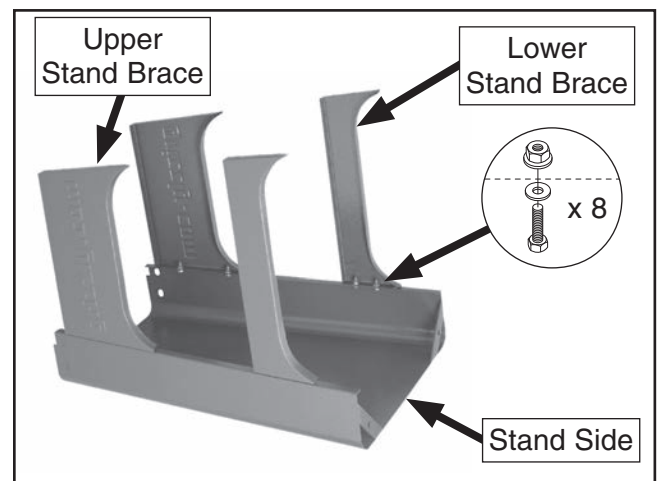

Figure 9. Upper and lower stand braces attached to the stand side.
1. Lay one stand side flat on a piece of cardboard to prevent scratching the paint, then attach the upper and lower stand braces to one side, as shown in **Figure 9**, with (8) $\frac{1}{4}$ "-20 x $\frac{5}{8}$ " hex bolts, (8) $\frac{1}{4}$ " flat washers, and (8) $\frac{1}{4}$ "-20 flange nuts.